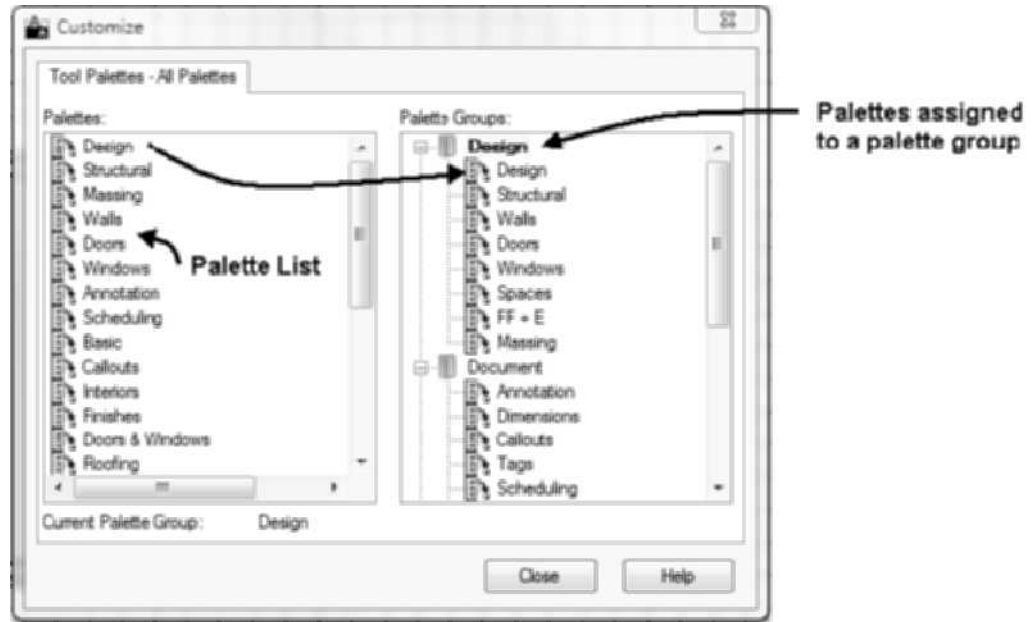

FIGURE 1.23 Assigning palettes to a palette group in the Customize dialog box
13. To view the palette settings, right-click the tool palette title bar and choose **Customize Palettes** from the shortcut menu. The palettes of the palette groups are shown in the right window in Figure 1.23. You may choose a palette shown in the left window and drag the palette to the right window to assign that palette to a group.